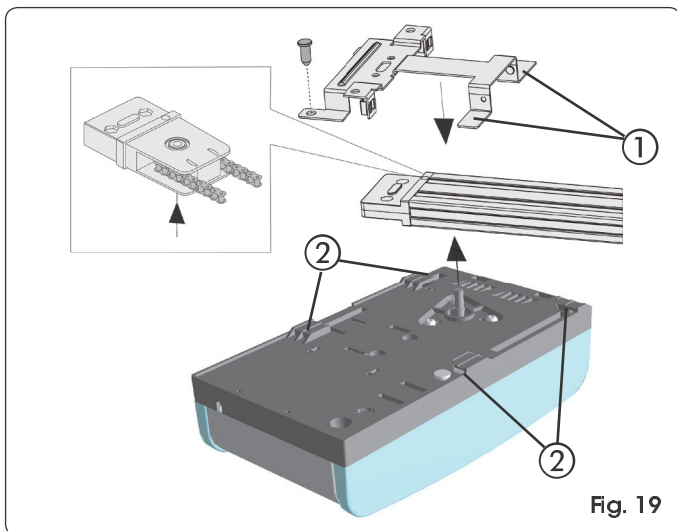
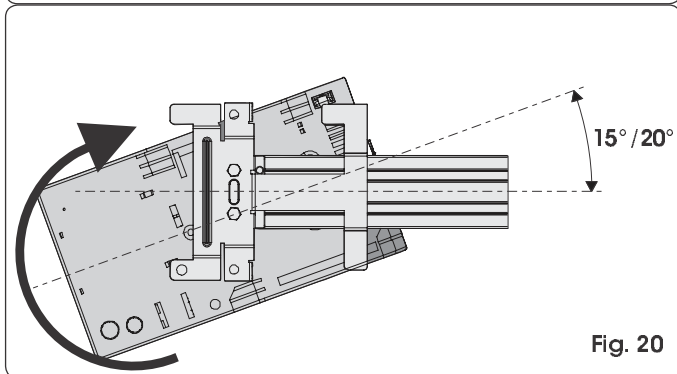
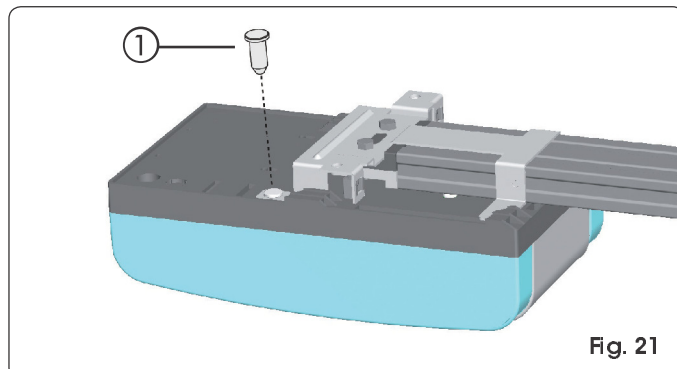

Fig. 19
Fig. 20
Fig. 21
- 1) While keeping the operator inclined at 15°/20° (Fig. 20), insert the gearmotor shaft in the coupling on the rear fitting of the sliding guide and make the fins (Fig. 19 ref. ①) near to the seats at the bottom of the operator base (Fig. 19 ref. ②).
- 2) Turn the operator in the direction of Fig. 20 until you reach position of Fig. 21, and fit the pin in the hole of the rear fitting (Fig.21 ref. ①).